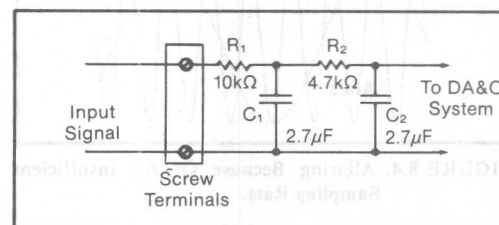
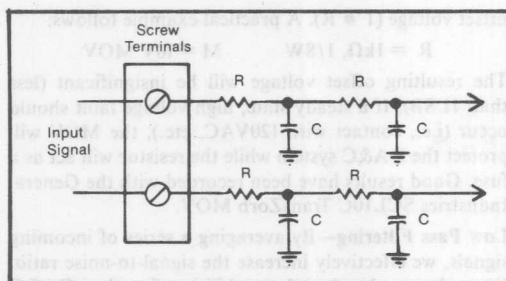

FIGURE 8.2. A 1Hz Low-Pass Filter (Single-Ended, 2-Pole).
FIGURE 8.3. A Low-Pass Filter (Differential, Two-Pole).
**Low Pass Filtering**—By averaging a series of incoming signals, we effectively increase the signal-to-noise ratio. Given the speed and math capabilities of modern DA&C systems, averaging is readily employed. Averaging will be most effective in reducing the effects of random, non-periodic noise. It is less effective in dealing with 50/60Hz or other periodic noise sources. It is important to remember that all noise filtering techniques, whether hardware or software, are designed to filter specific types of noise. The PCI-20000 signal termination panels have provisions for the user to install one or two poles of passive filtering. Figure 8.2 shows an example of an effective, single-ended, double-pole circuit to attenuate 50/60Hz noise. The filter has a -6dB cutoff at about 1Hz while attenuating 60Hz about 52dB (380 times).
Figure 8.3 suggests a differential, two-pole, low-pass filter. In contrast to the circuit in Figure 8.2, this can be used in balanced applications. Note that any mismatch of the attenuation in the top and bottom path will result in a degradation of the system common-mode rejection